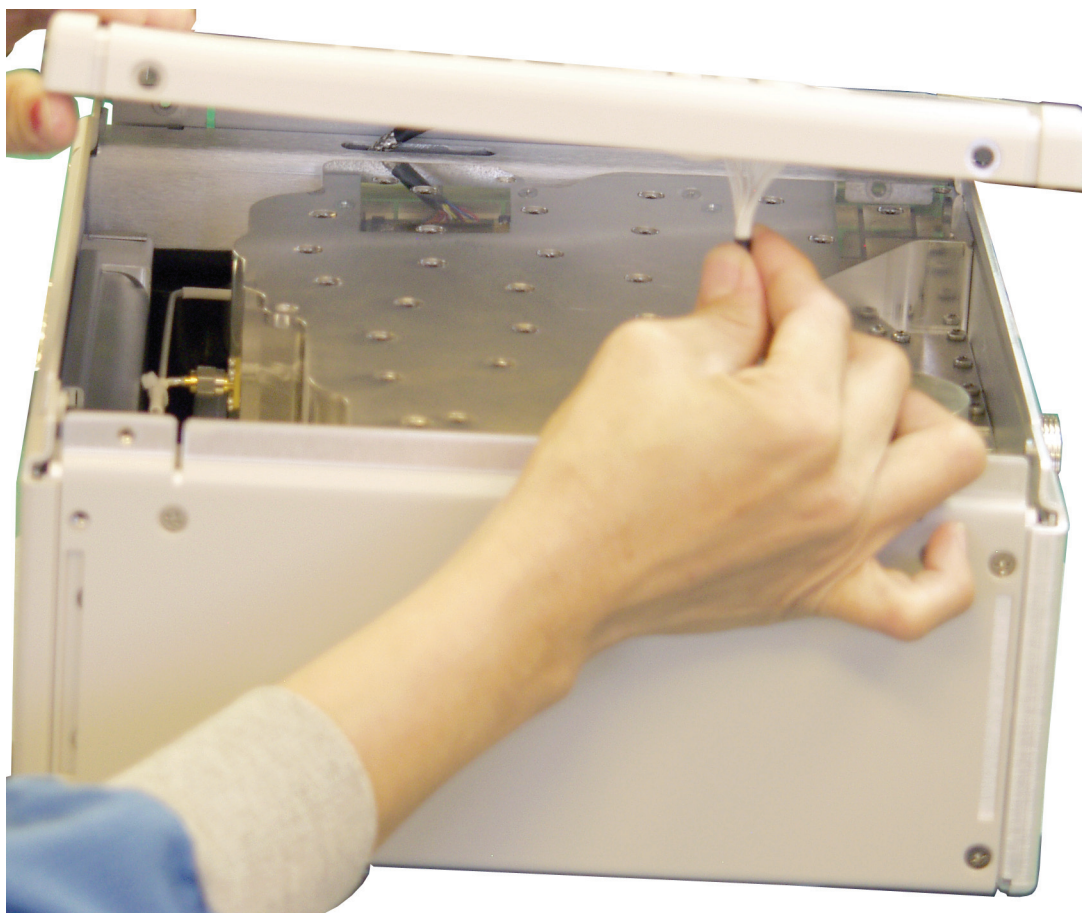

Figure 5-17. Keypad Cable Connector
- Carefully raise the left (keypad side) edge of the front panel and disconnect the Keypad Cable from the connector under the front panel by pressing on the release tab of the cable connector to release it from the front panel (Figure 5-17). Note that the hand in the figure is holding the cable for identification purposes. .